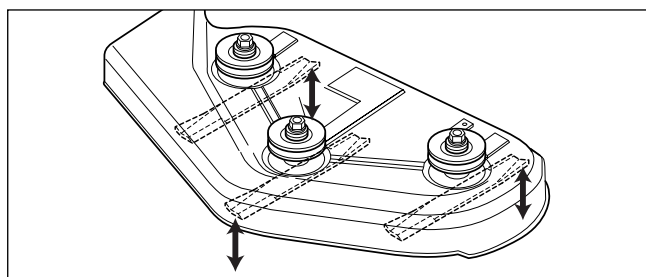

Figure 43. Orient Blades Front-to-Back
6. Arrange the blades so they face front-to-back (Figure 43).